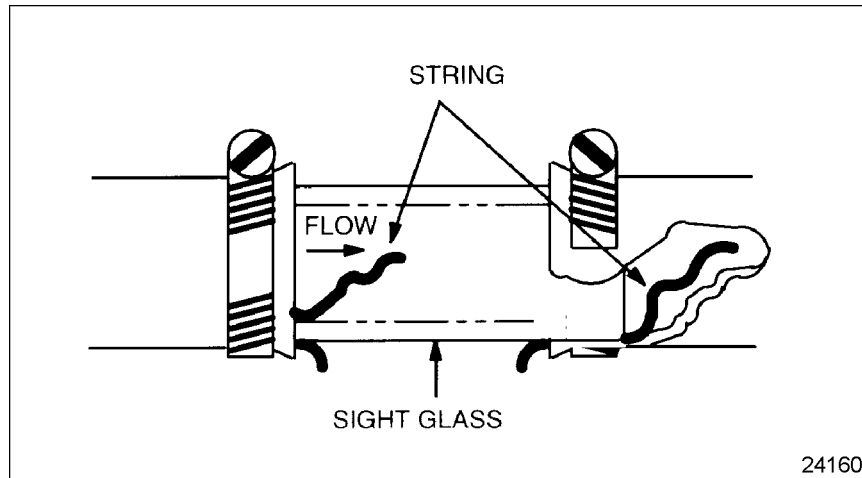

Figure 13-4 Radiator Flow Check
1. Install a sight glass with string (both ends) to the radiator outlet hose near radiator and before fill and heater return lines; see Figure 13-4.